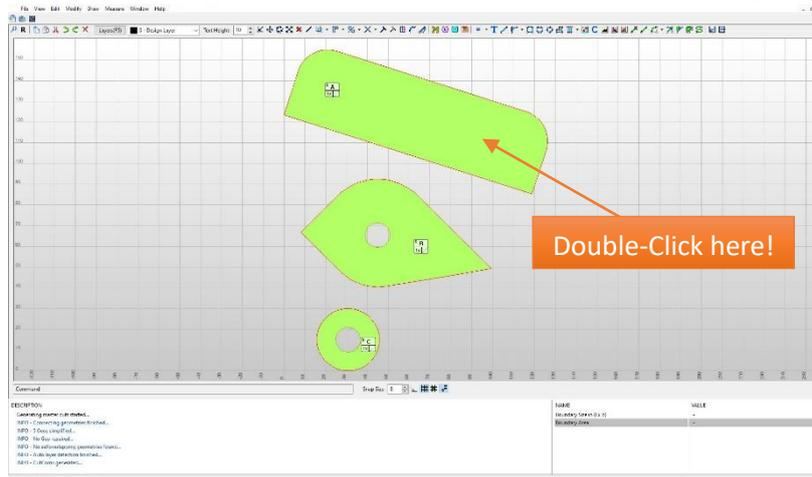

Figure 175
11. Therefore double-click on the first mastercut above to open its MasterCut Dialog (Figure 175).